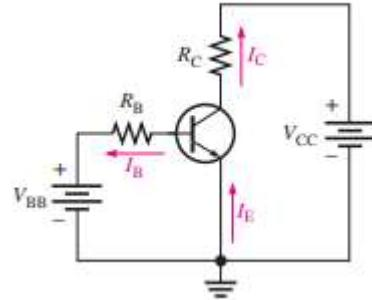

Fig. 2.3: Transistor dc bias circuit (similar to the circuit given in the lab manual 6 and fig. 6.1)
- When a transistor is connected to dc bias voltages, as shown in Fig. 2.3 for npn type, V_{BB} forward-biases the base-emitter junction, and V_{CC} reverse-biases the base-collector